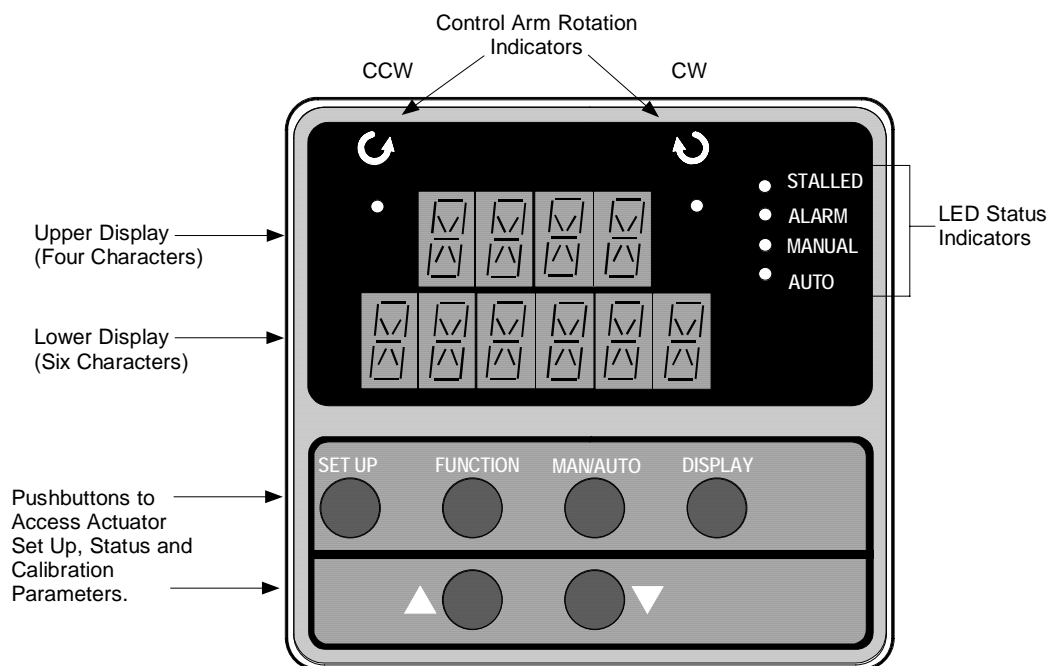

Figure 2 Local HMI (Display and Keypad)
- **Local HMI Configuration** – An integral keypad and high intensity display is available for non-intrusive local configuration of the actuator (Figure 2).
Configuration and set-up is through the local HMI, consisting of a display and keypad interface (Figure 2). A high intensity 10-character LED display and simple push buttons provide quick access for actuator set up and status information. If relay outputs are specified, all configuration can be done through either the local HMI interface or the PC configurator. If mechanical switches are specified, then the user must manually set the auxiliary output.